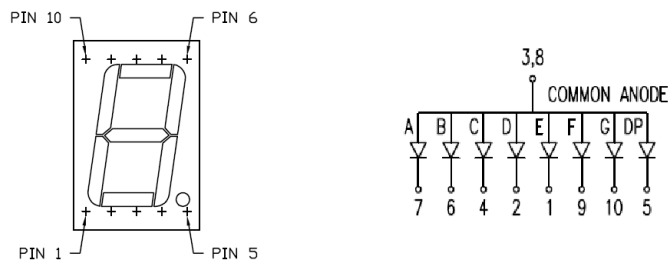
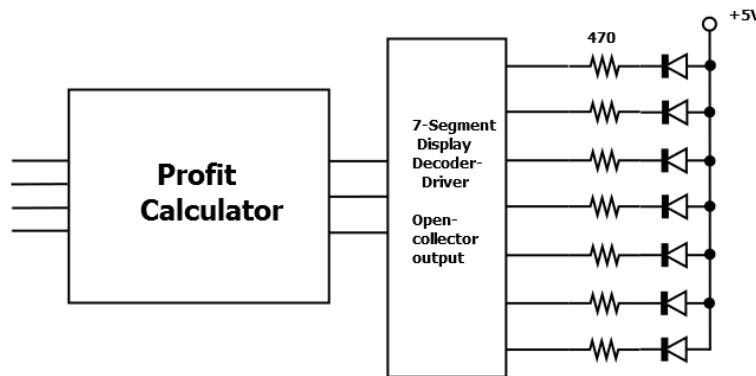

Figure 5: Seven-Segment Display Pinout
Figure 7: Open-Collector Driver to Display Circuit
For experiment 2, we would like to display the output of our profit calculator on a seven-segment display (Figure 5). To do so, we must utilize a BCD to seven-segment decoder/driver, part number SN74LS47,
As seen in Figure 5, the seven-segment display used in this lab is of a common anode configuration, meaning the positive terminals of the individual LED segments are connected together. Connect the output signals of the decoder to the seven-segment display provided in your lab kit with resistors as shown in Figure 7.
2. Provide a comparison between the table in item 1 and the truth table you created in the pre-lab. What values does your circuit output for the “don’t cares” and why?
4. Figure 7 labels the driver output as having an open-collector output. Explain what this means. Consult the datasheet for more information.